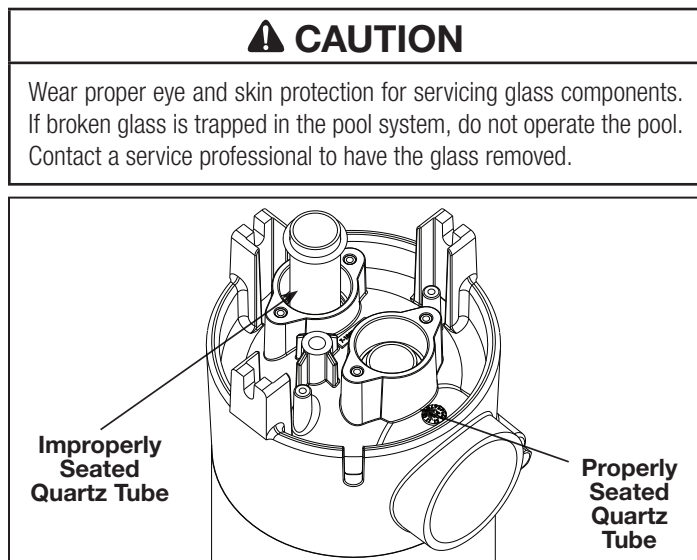

Figure 8. UV Quartz Tube Installation
1. Hold the quartz tube so it is oriented straight up and down. Insert the quartz tube into the UV reactor until it is fully seated in the bottom of the UV reactor. See Figure 8.
3. Place the lamp retainer over the quartz tube. Use the hex key included in the parts bag to attach the lamp retainer to the UV reactor, using the lamp retainer screws and washers. Torque lamp retainer screws to 15 in/lbs. Make sure the lamp retainer flanges are fully seated against the UV reactor. See Figure 8.